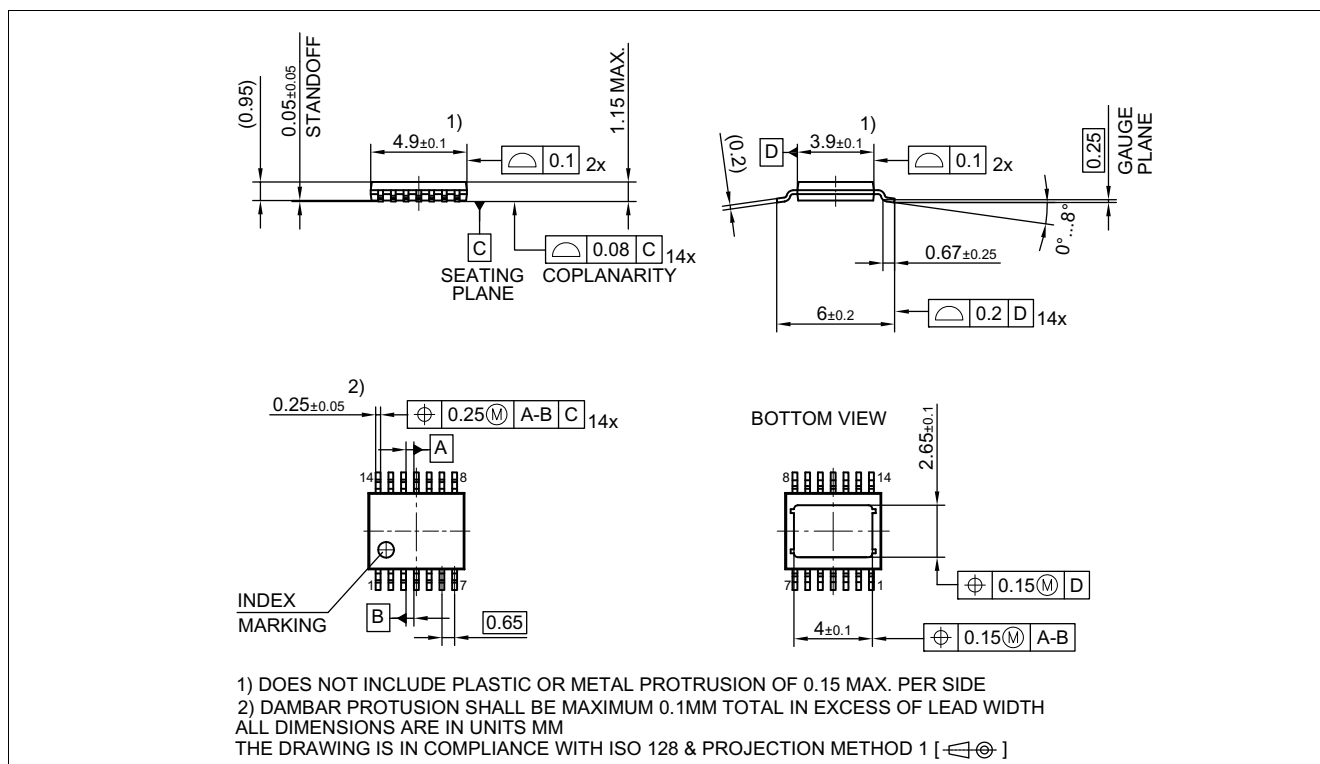
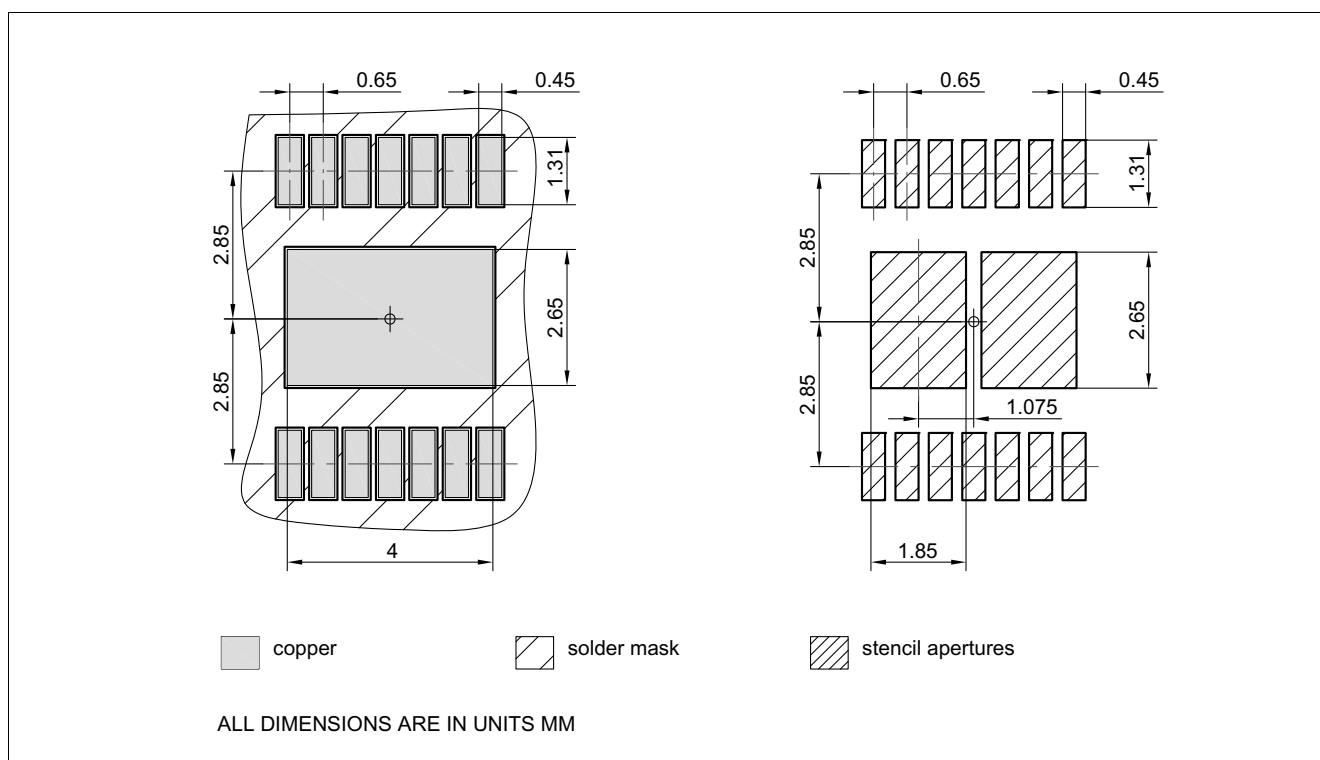

Figure 44 PG-TSDSO-14 (Thin (Slim) Dual Small Outline 14 pins) Package Outline
Figure 45 PG-TSDSO-14 (Thin (Slim) Dual Small Outline 14 pins) Package pads and stencil
1.03 , 2018-10-18	Chapter 9.3.1 updated (typo) Page 1: updated (Package PG-TSDSO-14-22 → Package PG-TSDSO-14) Figure 29 updated Figure 44 updated (PG-TSDSO-14-22 (Thin (Slim) Dual Small Outline 14 pins) Package Outline → PG-TSDSO-14 (Thin (Slim) Dual Small Outline 14 pins) Package Outline) Figure 45 updated (PG-TSDSO-14-22 (Thin (Slim) Dual Small Outline 14 pins) Package pads and stencil → PG-TSDSO-14 (Thin (Slim) Dual Small Outline 14 pins) Package pads and stencil) Table 1 updated ((Symbol: $I_{VS(SLEEP)}$ → $I_{VS(SLEEP)_{85}}$), (Parameter: Minimum Overvoltage protection ($T_J = 25\text{ °C}$) → Minimum Overvoltage protection ($T_J \geq 25\text{ °C}$)) P_9.6.0.6 updated (Note or Test Condition: removed unnecessary line-break) Chapter 7.4.1 updated chapter title (PROFET → PROFET™) Table 12 updated table title (PROFET → PROFET™) Chapter 8.6.1 updated chapter title (PROFET → PROFET™) Table 16 updated table title (PROFET → PROFET™) Chapter 9.5.1 updated chapter title (PROFET → PROFET™) Table 21 updated table title (PROFET → PROFET™) P_4.1.0.21, P_4.1.0.22, P_4.1.0.23, P_4.1.0.24 updated (footnote ESD standards) Table 1 updated ($R_{DS(ON)}$ → $R_{DS(ON)_{150}}$), ($V_{DS(CLAMP)}$ → $V_{DS(CLAMP)_{25}}$) Chapter 8.5.2 updated phrasing P_7.5.3.14 Table subheading "Switching Energy" added P_7.5.3.15 Table subheading "Switching Energy" added Chapter 6.4 added conditions Chapter 7.5 added conditions P_7.5.3.14 updated (Test condition: add "See Figure") P_7.5.3.15 updated (Test condition: add "See Figure") Chapter 8.7 added conditions Chapter 9.6 added conditions P_9.7.3.27 updated (Test condition: add "See Figure") P_9.7.3.29 updated (Test condition: add "See Figure") Chapter 7.3.1 typo corrected (link to Figure 19 added)